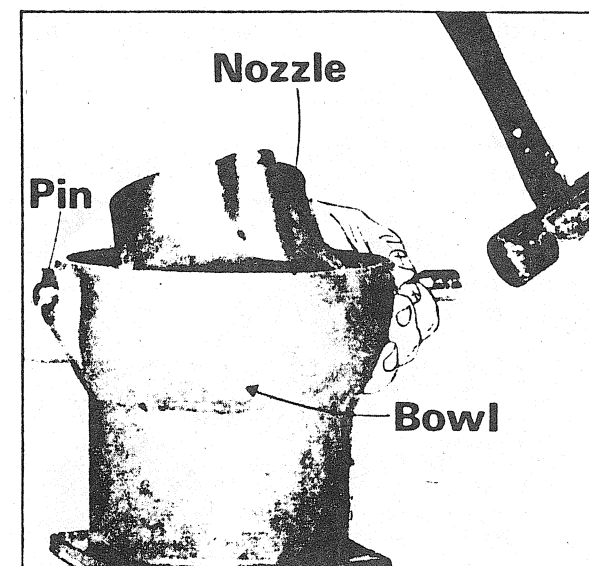

FIGURE 9
- Insert a ¼" dia. x 10" long rod into the tiller orifice of the bowl and nozzle, then using a soft faced hammer, drive out the pin locking the nozzle to the bowl (fig. 9).